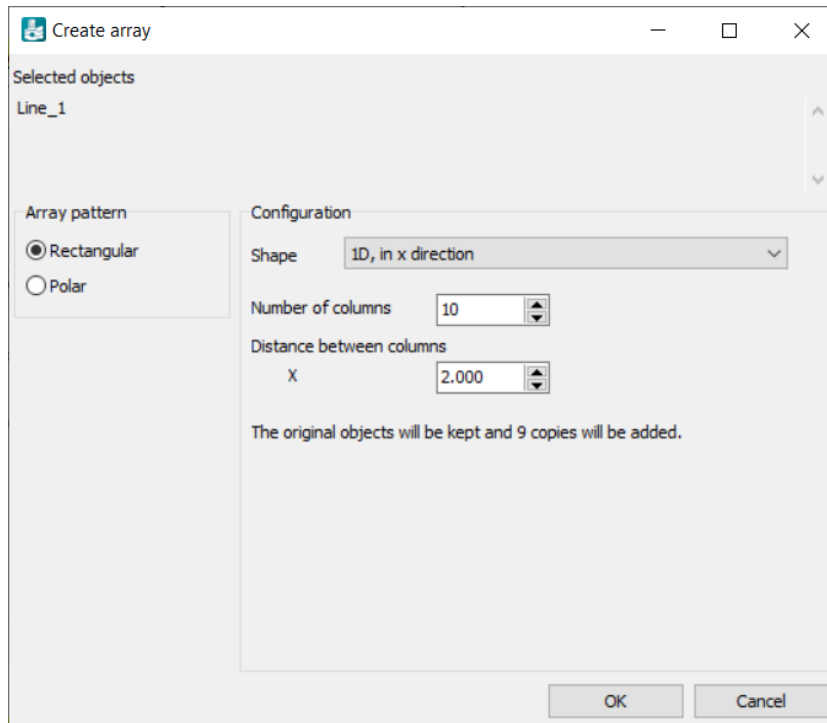

Figure 97: Settings of the drain pattern
4. In the **Create array** window select the menu item **Shape > 1D, in x direction** in the drop-down menu and specify the pattern as shown in Figure 97 (on page 122).